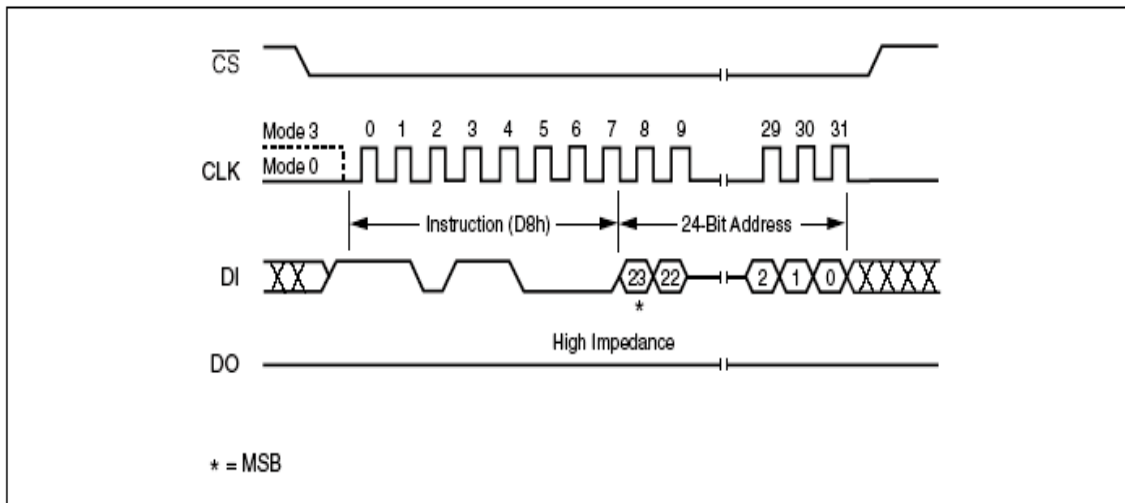

Figure 13 Block Erase Instruction Sequence Diagram
The instruction sequence is shown in Figure 13.. Chip Select (CS#) must be driven High after the eighth bit of the last address byte has been latched in, otherwise the Block Erase (BE) instruction is not executed. As soon as Chip Select (CS#) is driven High, the self-timed Block Erase cycle (whose duration is t_{BE}) is initiated. While the Block Erase cycle is in progress, the Status Register may be read to check the value of the Write In Progress (WIP) bit. The Write In Progress (WIP) bit is 1 during the self-timed Block Erase cycle, and is 0 when it is completed. At some unspecified time before the cycle is completed, the Write Enable Latch (WEL) bit is reset.